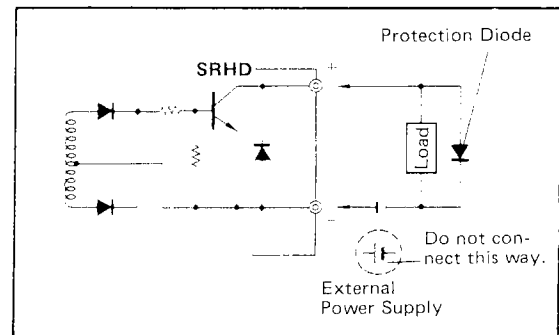

Figure 3-3. Contact Output Connection to External Load.
- Connect a protection diode (surge absorber) in parallel with inductive loads such as relays to protect the transistor switch from transients when energizing or deenergizing external circuits. (See Figures 3-3, 3-4.)